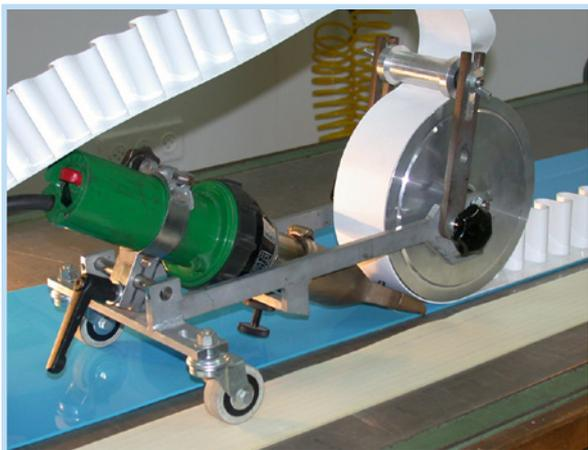

Fig. 3
- The Trolley must be properly balanced (Fig. 3). It is important to ensure that the wheels are adjusted so that the pressure roller applies an even pressure on both sides of the strip.
2. Lay the belt on the working surface. Place a piece of belt material of the same thickness alongside the belt on the side you will be welding (Fig. 3). This material will provide a surface for the outside wheel of the sidewall Trolley to ride on. Without this material the Trolley will not ride level and the pressure roller will not be able to apply even pressure on the sidewall base.